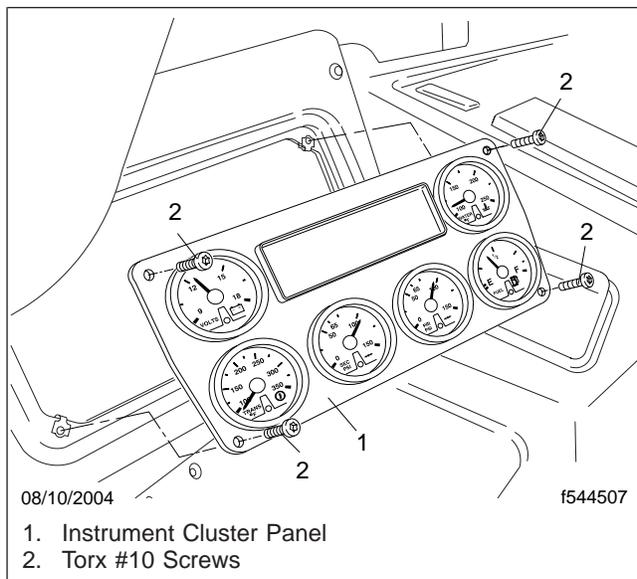

Fig. 1, Instrument Cluster
3. Remove the four Torx® screws that attach the instrument cluster panel to the dash. See **Fig. 1**.